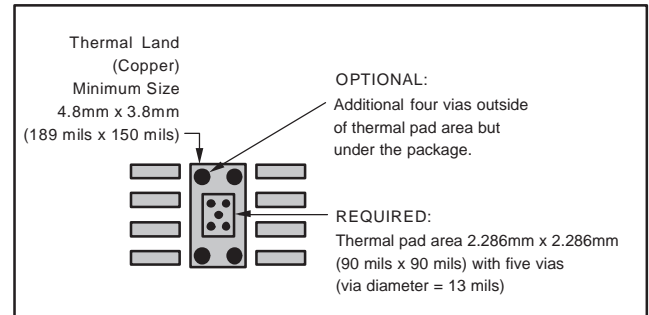

Figure 14. 8-Pin PowerPAD PCB Etch and Via Pattern
3. Place recommended holes in the area of the thermal pad. Recommended thermal land size and thermal via patterns for the SO-8 DDA package is shown in Figure 14. These holes should be 13 mils in diameter. Keep them small, so that solder wicking through the holes is not a problem during reflow. The minimum recommended number of holes for the SO-8 PowerPAD package is five.